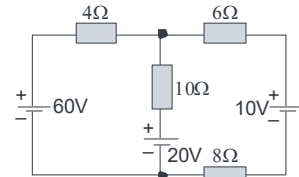

FIG. 1.145
- Using superposition theorem, find the current in all the branches of the circuit shown in fig.1.145.